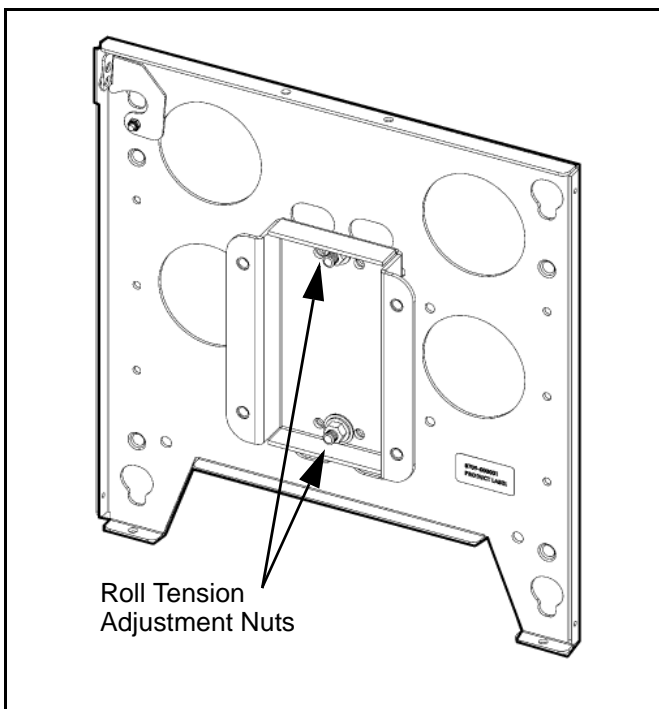

Figure 17: Adjust Roll Tension
8. Locate roll adjustment nuts on back of Faceplate and adjust. Turn Clockwise to increase roll tension, counterclockwise to decrease roll tension. (see Figure 17:)